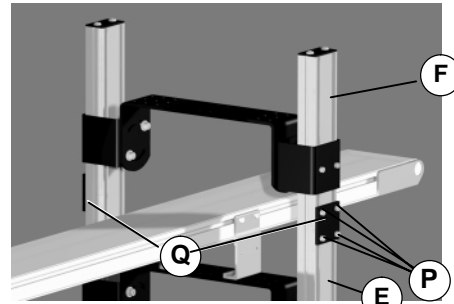

Figure 6
2. Loosen (8) tie bracket screws (R of Figure 6). Place upper tier support (F) onto lower base support (E). Slide tie brackets (Q) into lower base support. Tighten screws (P) to 146 in-lbs (17 N-m). Repeat for each multi tier stand.